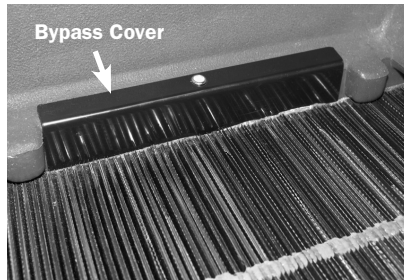

Figure 3
**Below 90°F** - When the Phoenix R200 is used in normal dehumidifier operating temperatures (below 90°F), the bypass cover must close the bypass openings, figure 3. This maximizes performance by increasing the amount of air that is dehumidified across the evaporator. This temperature range is often found during the first 24 hours of a drying job.